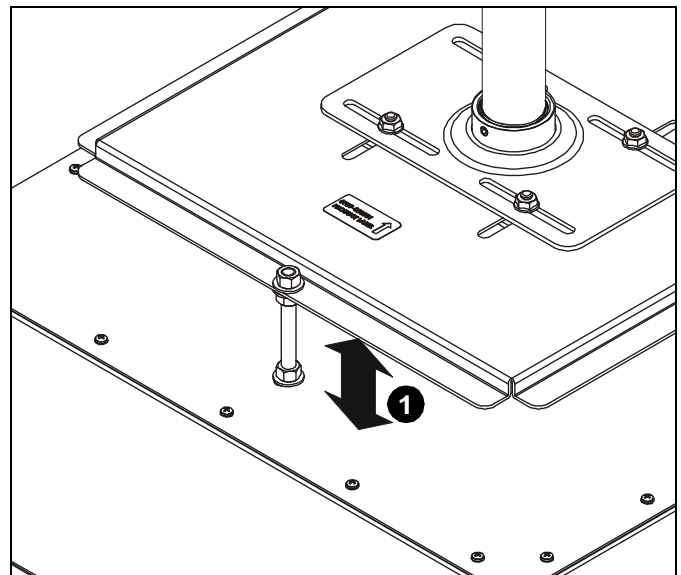

Figure 11
1. Adjust hex nuts up or down in order to make sure the SL-151 is evenly mounted. (See Figure 11)